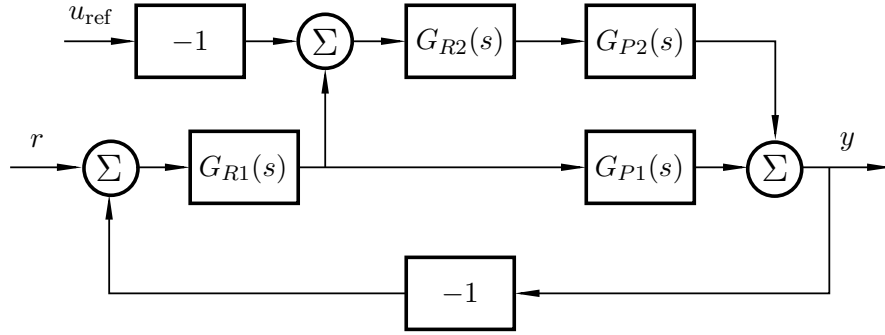

Figure 3 The controller structure in Problem 5.
5. A controller structure known as “mid-ranging control” is shown in Figure 3.